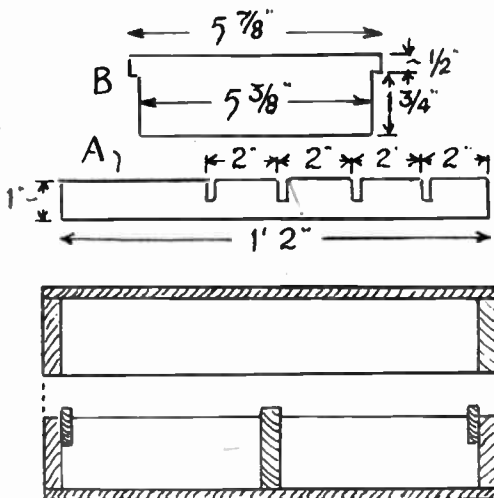

Fig. 2—Interior details
The divisional piece, also cut from $\frac{1}{4}$ in. wood, is $2\frac{1}{4}$ ins. wide, and the interior length of the box. It can be just nailed in place, properly in the middle, of course, but before fixing it, a series of slots must be sawn and cut out. These are shown at (A), the slots being $\frac{1}{4}$ in. wide and $\frac{1}{4}$ in. long. At each side of the box, a strip of wood, $\frac{1}{4}$ in. thick and 1 in. wide, is to be fitted in, also slotted. These are also shown at (A) in Fig. 2.